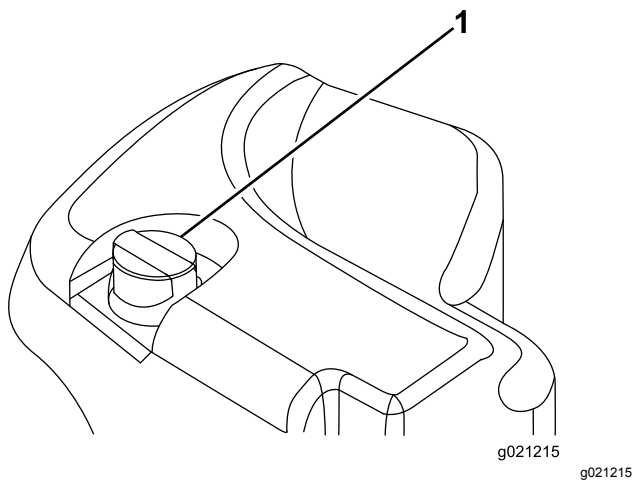

Figure 67
2. Clean the area around the filler neck and cap of the hydraulic tank (Figure 67).